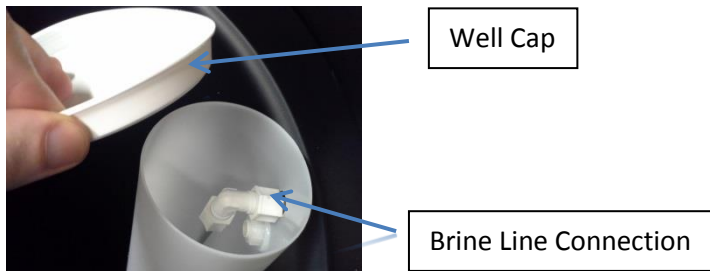

Figure 11: Brine Well Picture
- B. Remove the well cap and connect one end of the brine line hose to the brine line connection (Shown in Figure 11) of the brine tank. Tighten the brine line hose to the brine line connection by turning the cap of the brine line connection clockwise by hand. Make sure that no air can get into the line, or the softener will not regenerate properly.